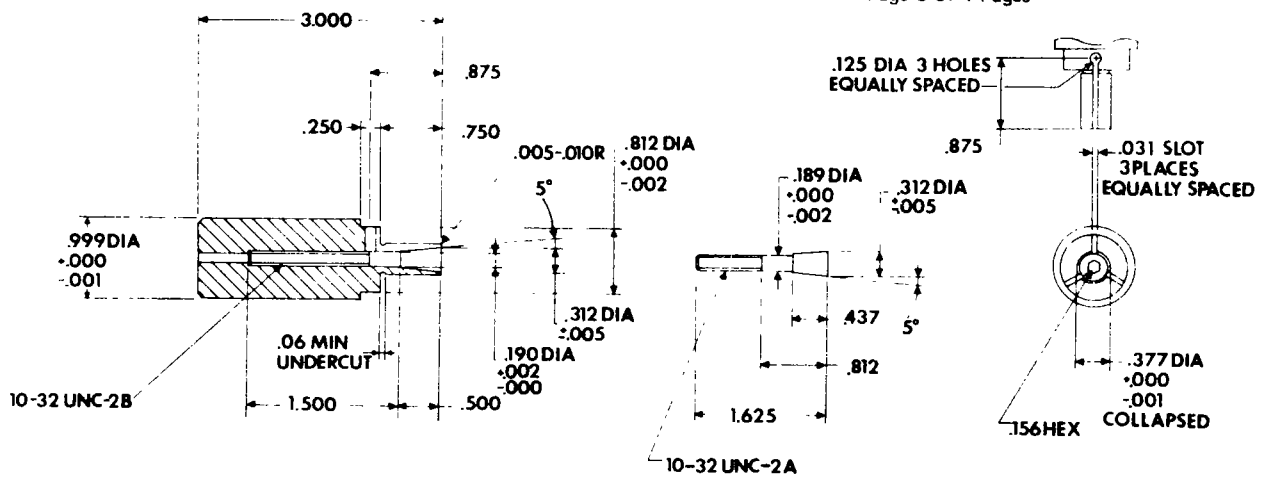

Figure 3.
2. Fabricate an expanding arbor lathe fixture as shown in figure 3. (Similar arbors may be purchased from industry machine tool supply houses.)
Expanding arbor lathe fixture. (See figure 3).